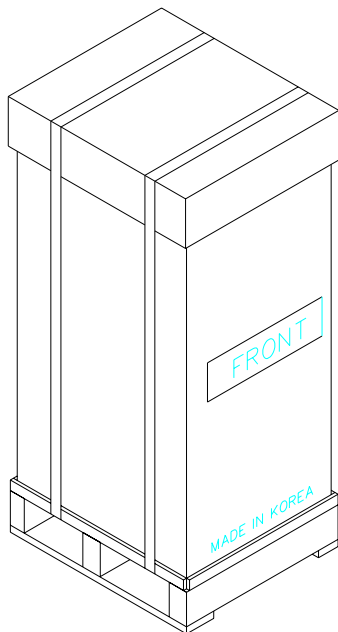

Fig.7
- Cut the straps that are fastened around the box with a knife. (refer to Fig.7)